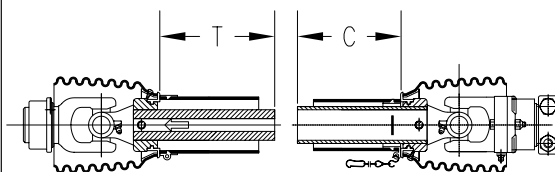

Fig. 2
2. Pull apart PTO telescoping shaft ends and measure lengths “T” & “C” (Fig. 2)